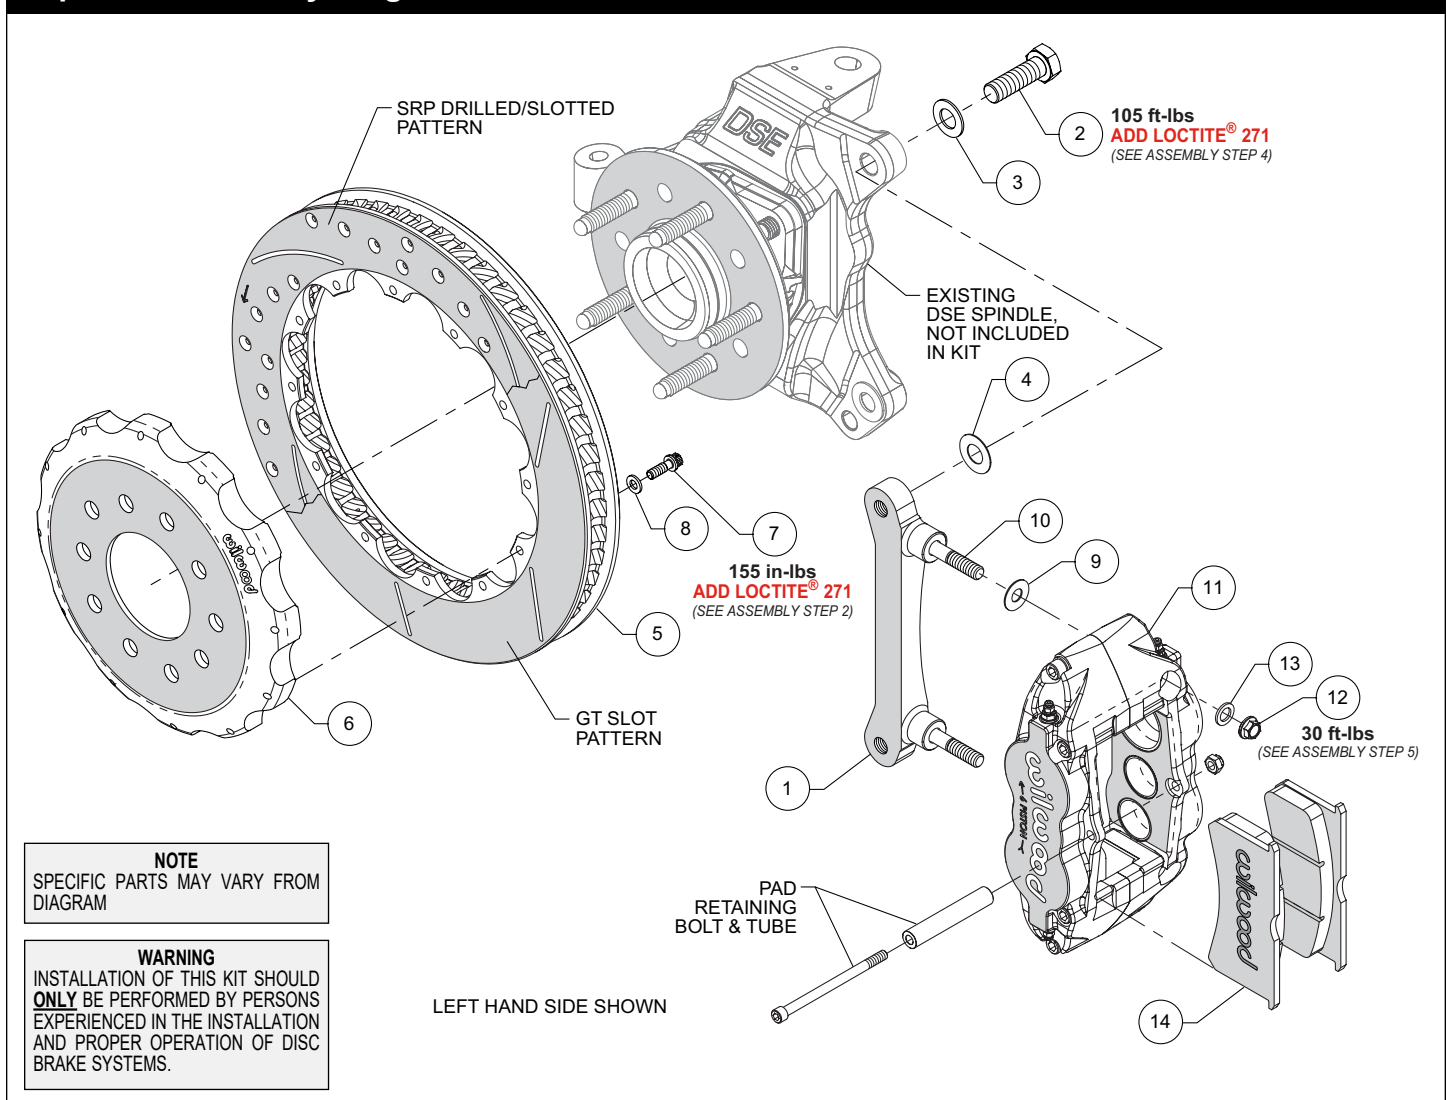
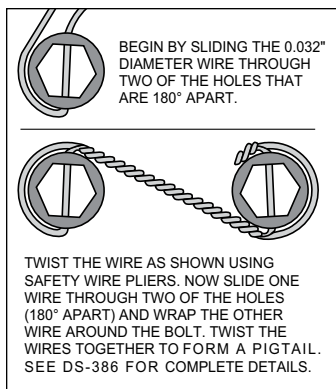

Figure 1. Typical Installation Configuration
Figure 3.
NOTE: Numbers in parenthesis refer to the parts list and Figure 1 on the preceding pages.
STEP 1 The caliper mount bracket (1) should initially be installed with clean, dry threads on the mounting bolts. Orient the bracket as shown in Figure 1 and Photo 1, and install using bolts (2) and washers (3). Initially place one .029" thick shim (4) on each bolt between the bracket and upright, Figure 1 and Photo 2. Temporarily tighten the mounting bolts. **NOTE:** The bracket must fit squarely against the mount bosses on the upright. Inspect for interference from casting irregularities, machining ridges, burrs, etc. Later, after the caliper alignment has been checked, the mount bolts will be secured using red *Loctite*® 271.
STEP 2 Orient the rotor (5) and the hat (6) as shown in Figure 1 and Photo 3. Attach the hat to the rotor using bolts (7) and washers (8). Apply red *Loctite*® 271 to the bolt threads and torque to value shown in Figure 1 using a criss-cross pattern. For an added measure of security, the bolts may be safety wired using standard 0.032 inch diameter stainless steel safety wire as shown in Figure 3. Please refer to Wilwood's data sheet DS-386 (available at www.wilwood.com/Pdf/DataSheets/ds386.pdf) for complete safety wire installation instructions.
STEP 4 NOTE: This kit contains distinct right and left hand calipers that must be mounted in a specific direction, as described below. Initially place one .035" thick shim (9) on each stud (10) as shown in Figure 1 and Photo 5. Mount the caliper (11) onto the bracket (1) using lock nuts (12) and washers (13), Figure 1. Ensure that the caliper is mounted so that the largest pistons are at the rotor exit end of the caliper, in relation to the direction of rotor rotation. Temporarily tighten the lock nuts and view the rotor through the top opening of the caliper. The rotor should be centered in the caliper, Photo 6. If not, adjust by adding or subtracting shims (4) between the bracket and the upright. Always use the same amount of shims on each of the two mounting bolts. Once the caliper alignment is correct, remove the bracket mounting bolts (2) one at a time, apply red *Loctite*® 271 to the threads, and torque to value shown in Figure 1.
STEP 5 Remove the caliper center bridge pad retainer bolt, nut, and tube from the caliper. Insert the brake pads (14) into the caliper, with the friction material facing the rotor, as shown in Photo 7. Check that the top of the brake pad is flush with the outside diameter of the rotor, Photo 8. If not, adjust by adding or subtracting shims (9) between the caliper and the bracket. After the caliper pad height is set, torque the caliper lock nuts (12) to value shown in Figure 1. Secure the brake pads in place with the center bridge pad retainer tube, bolt, and locknut, Photo 9. The locknut should be snug without play in the bolt or tube. Be cautious not to over tighten.